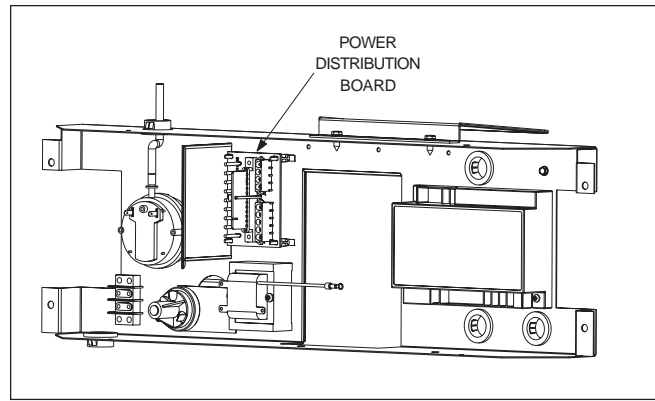

Figure 20. Location Of Power Distribution Board
1. Identify the power distribution board on the heater. It is located to the left of the fan intake on the raceway (see Figure 20).